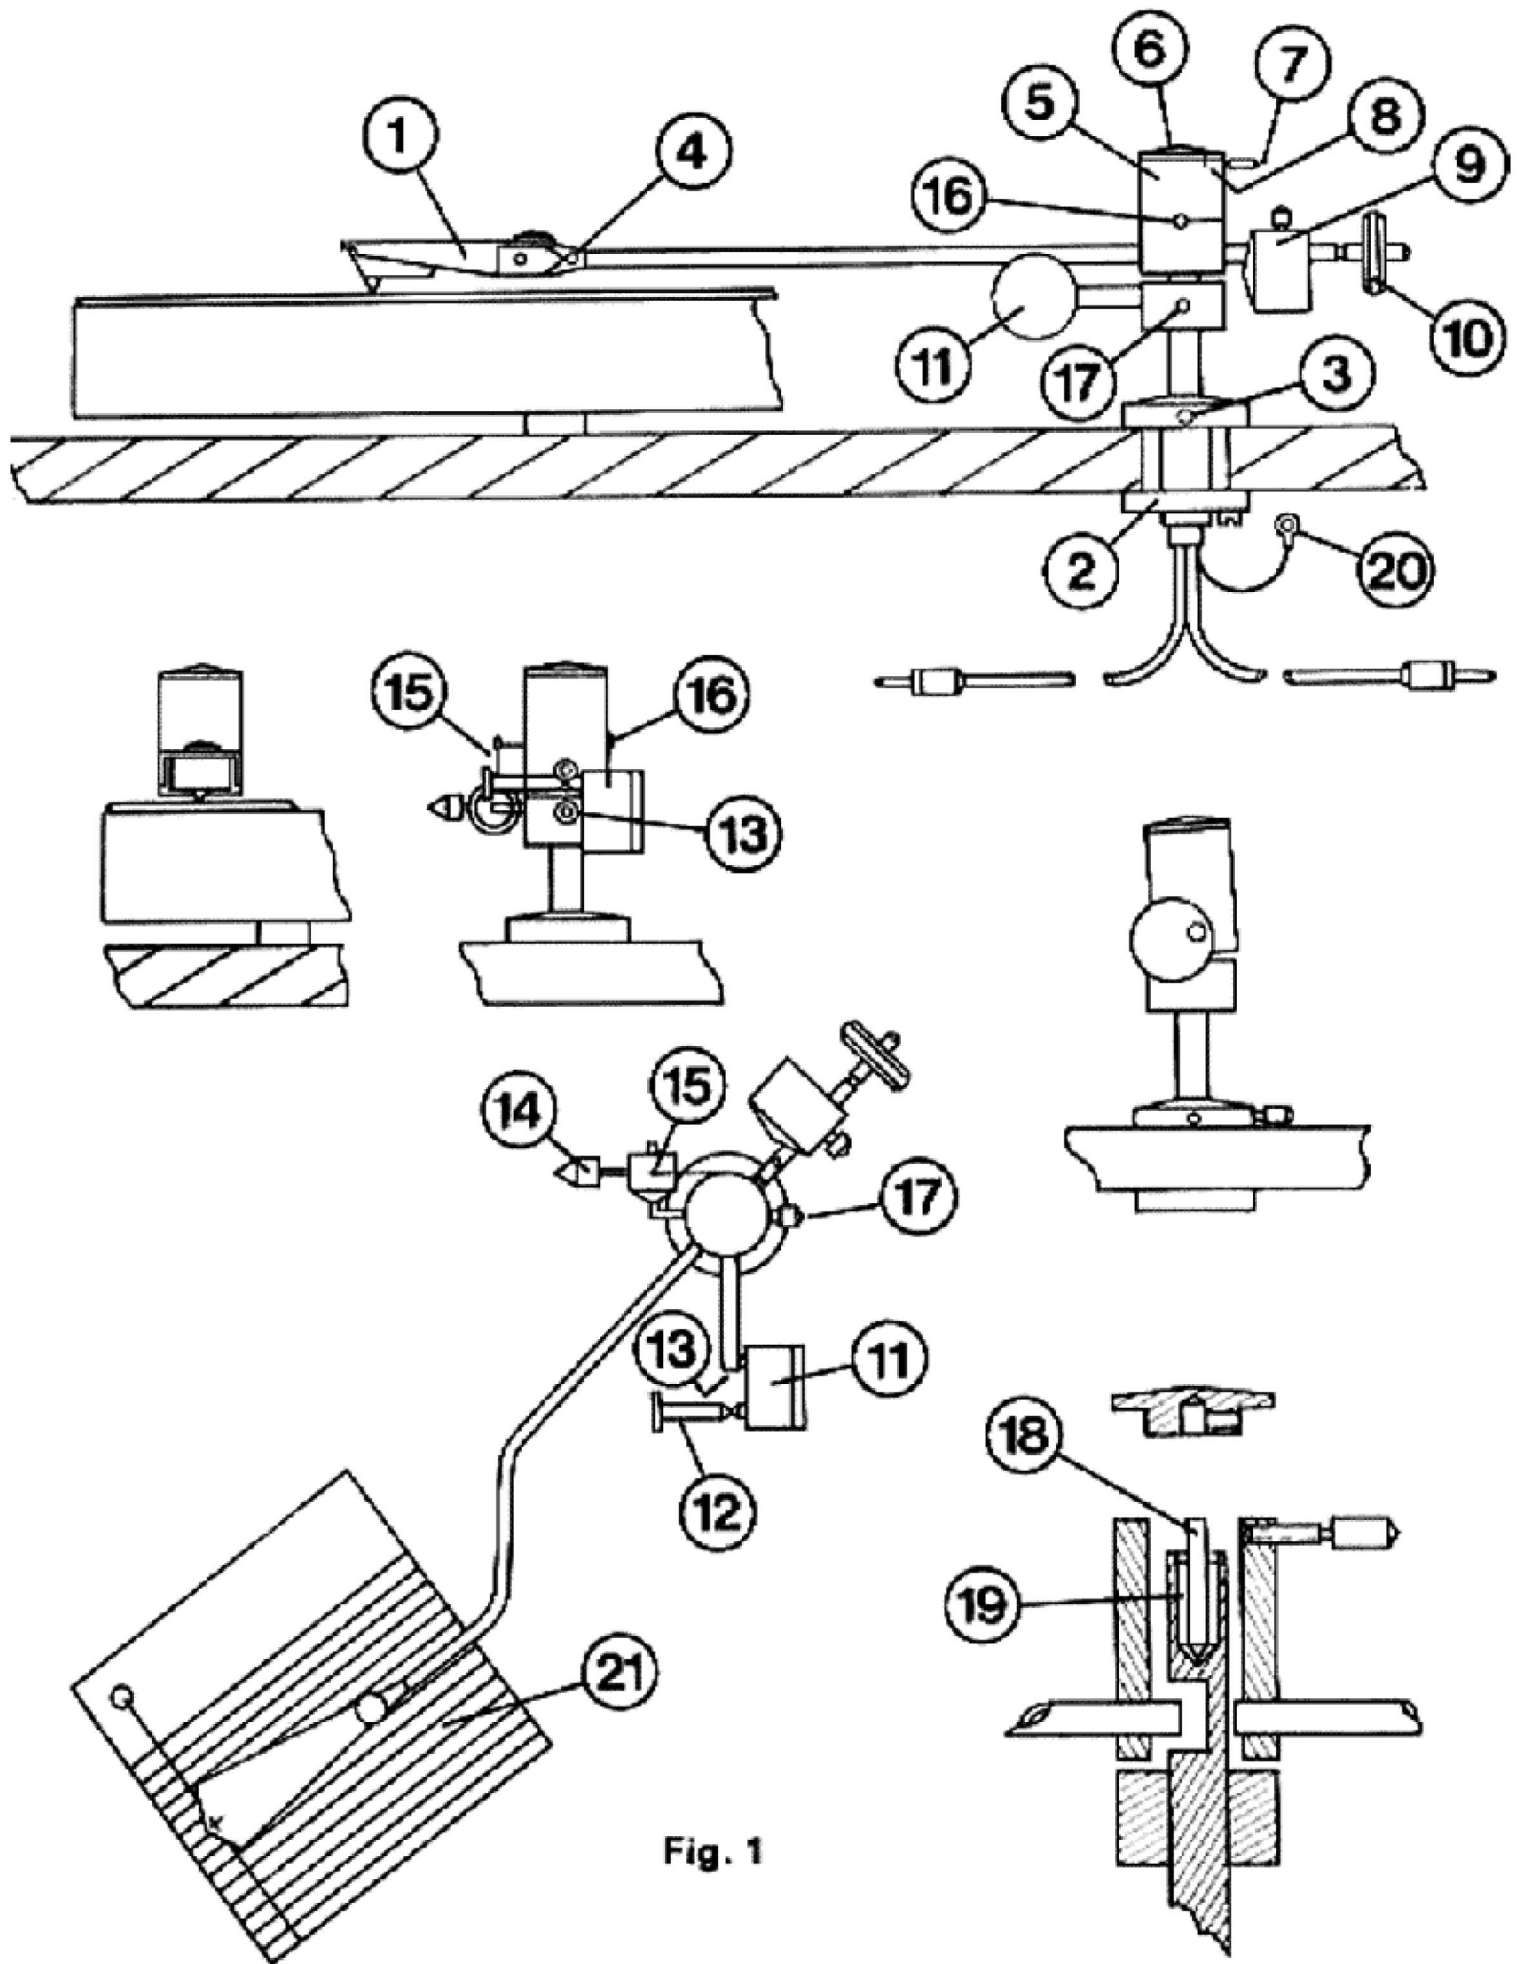
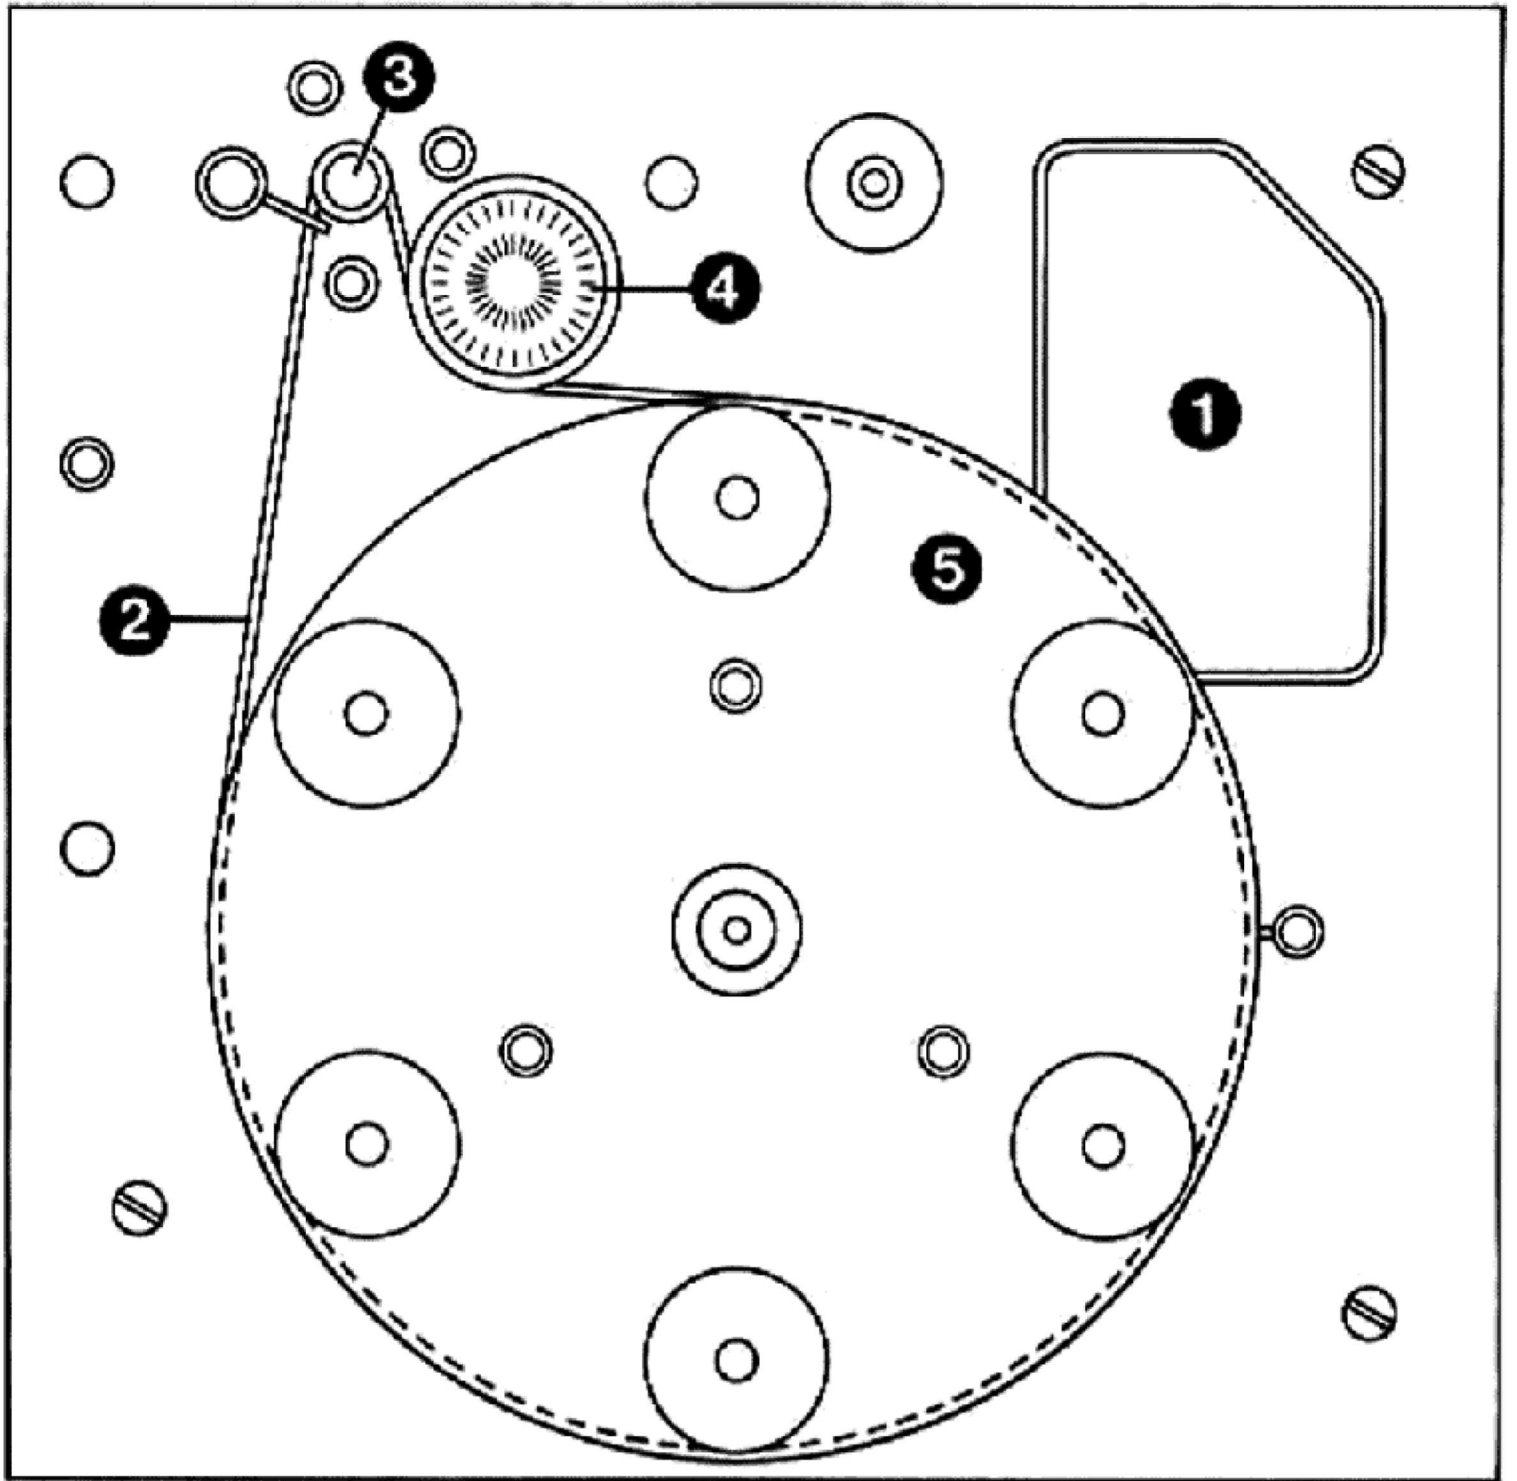
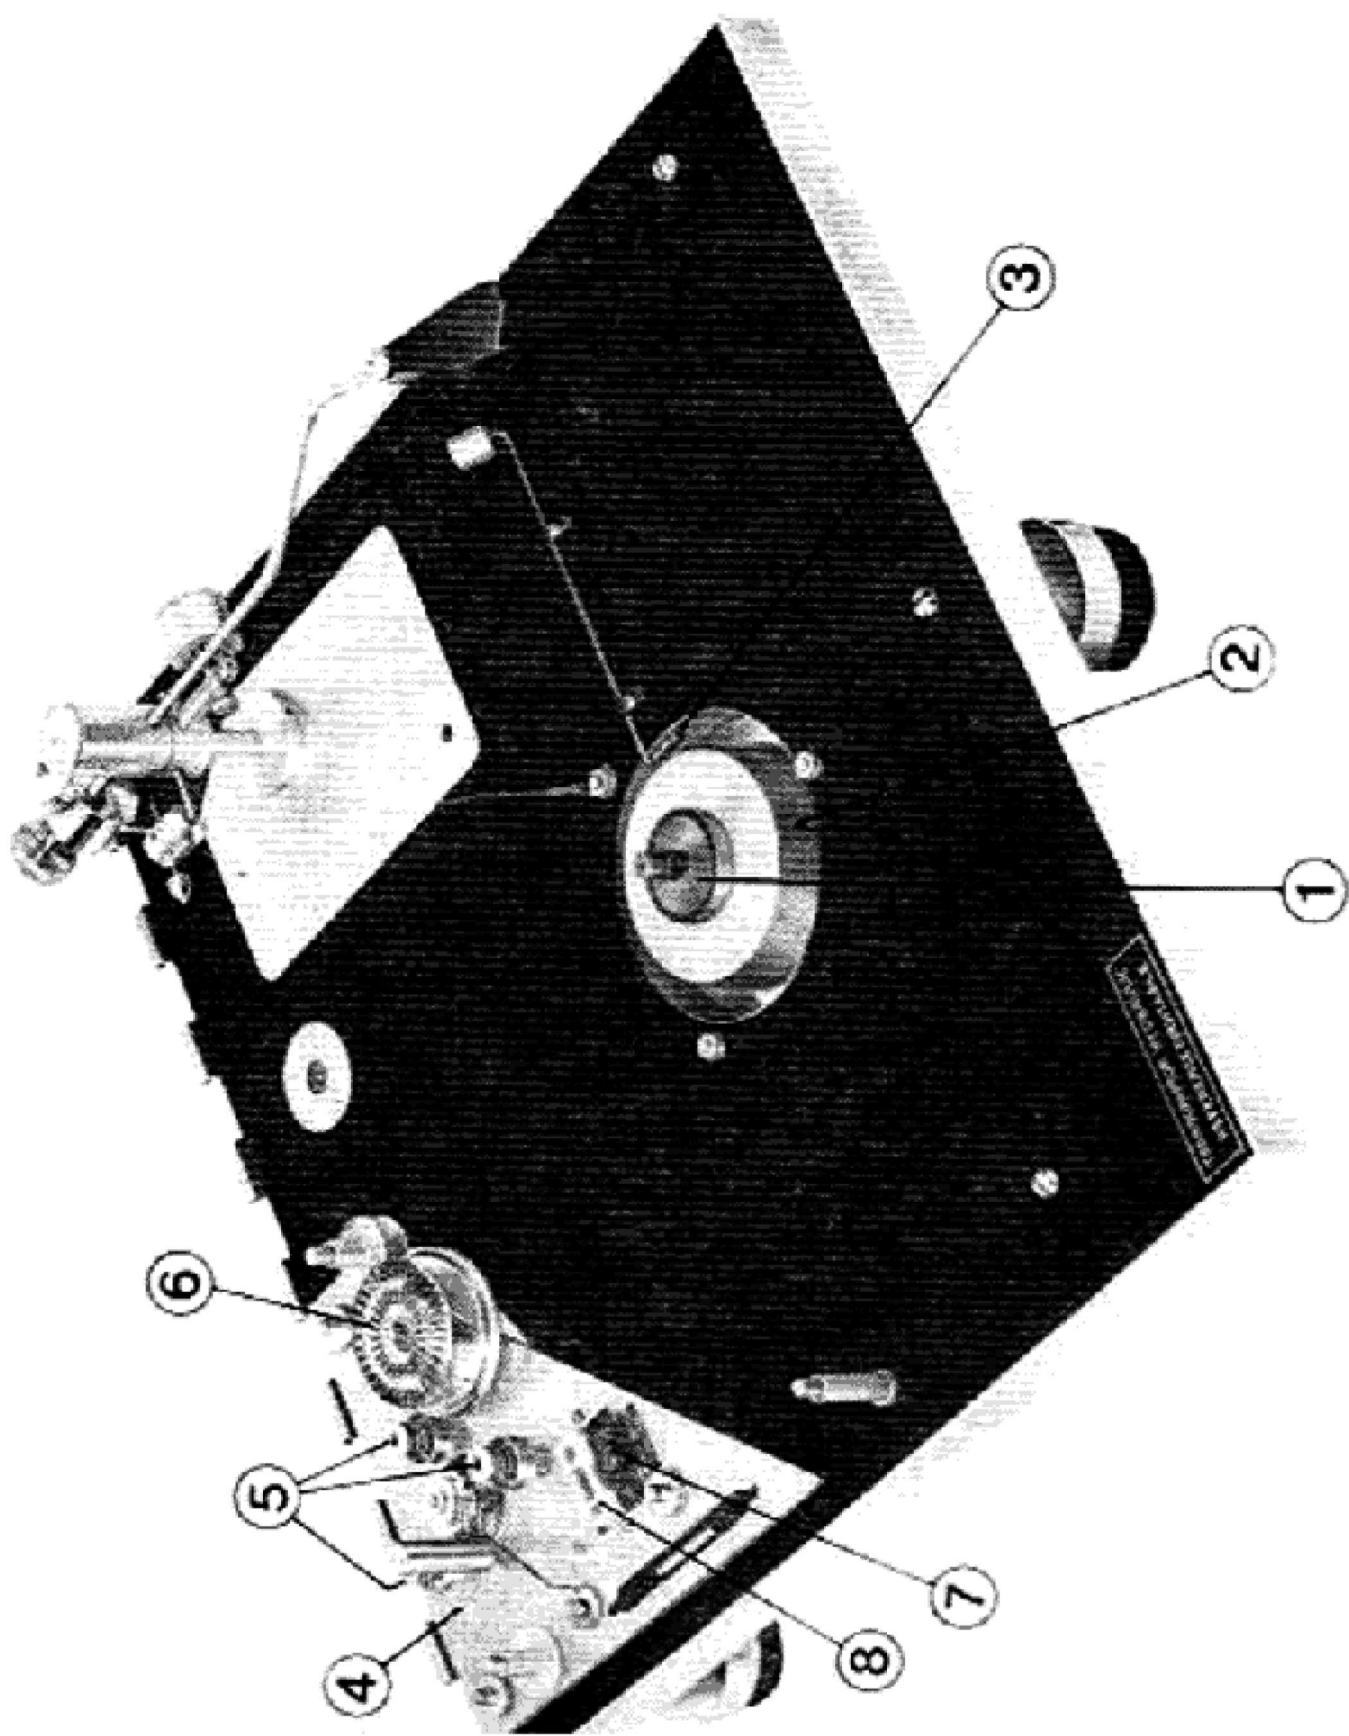
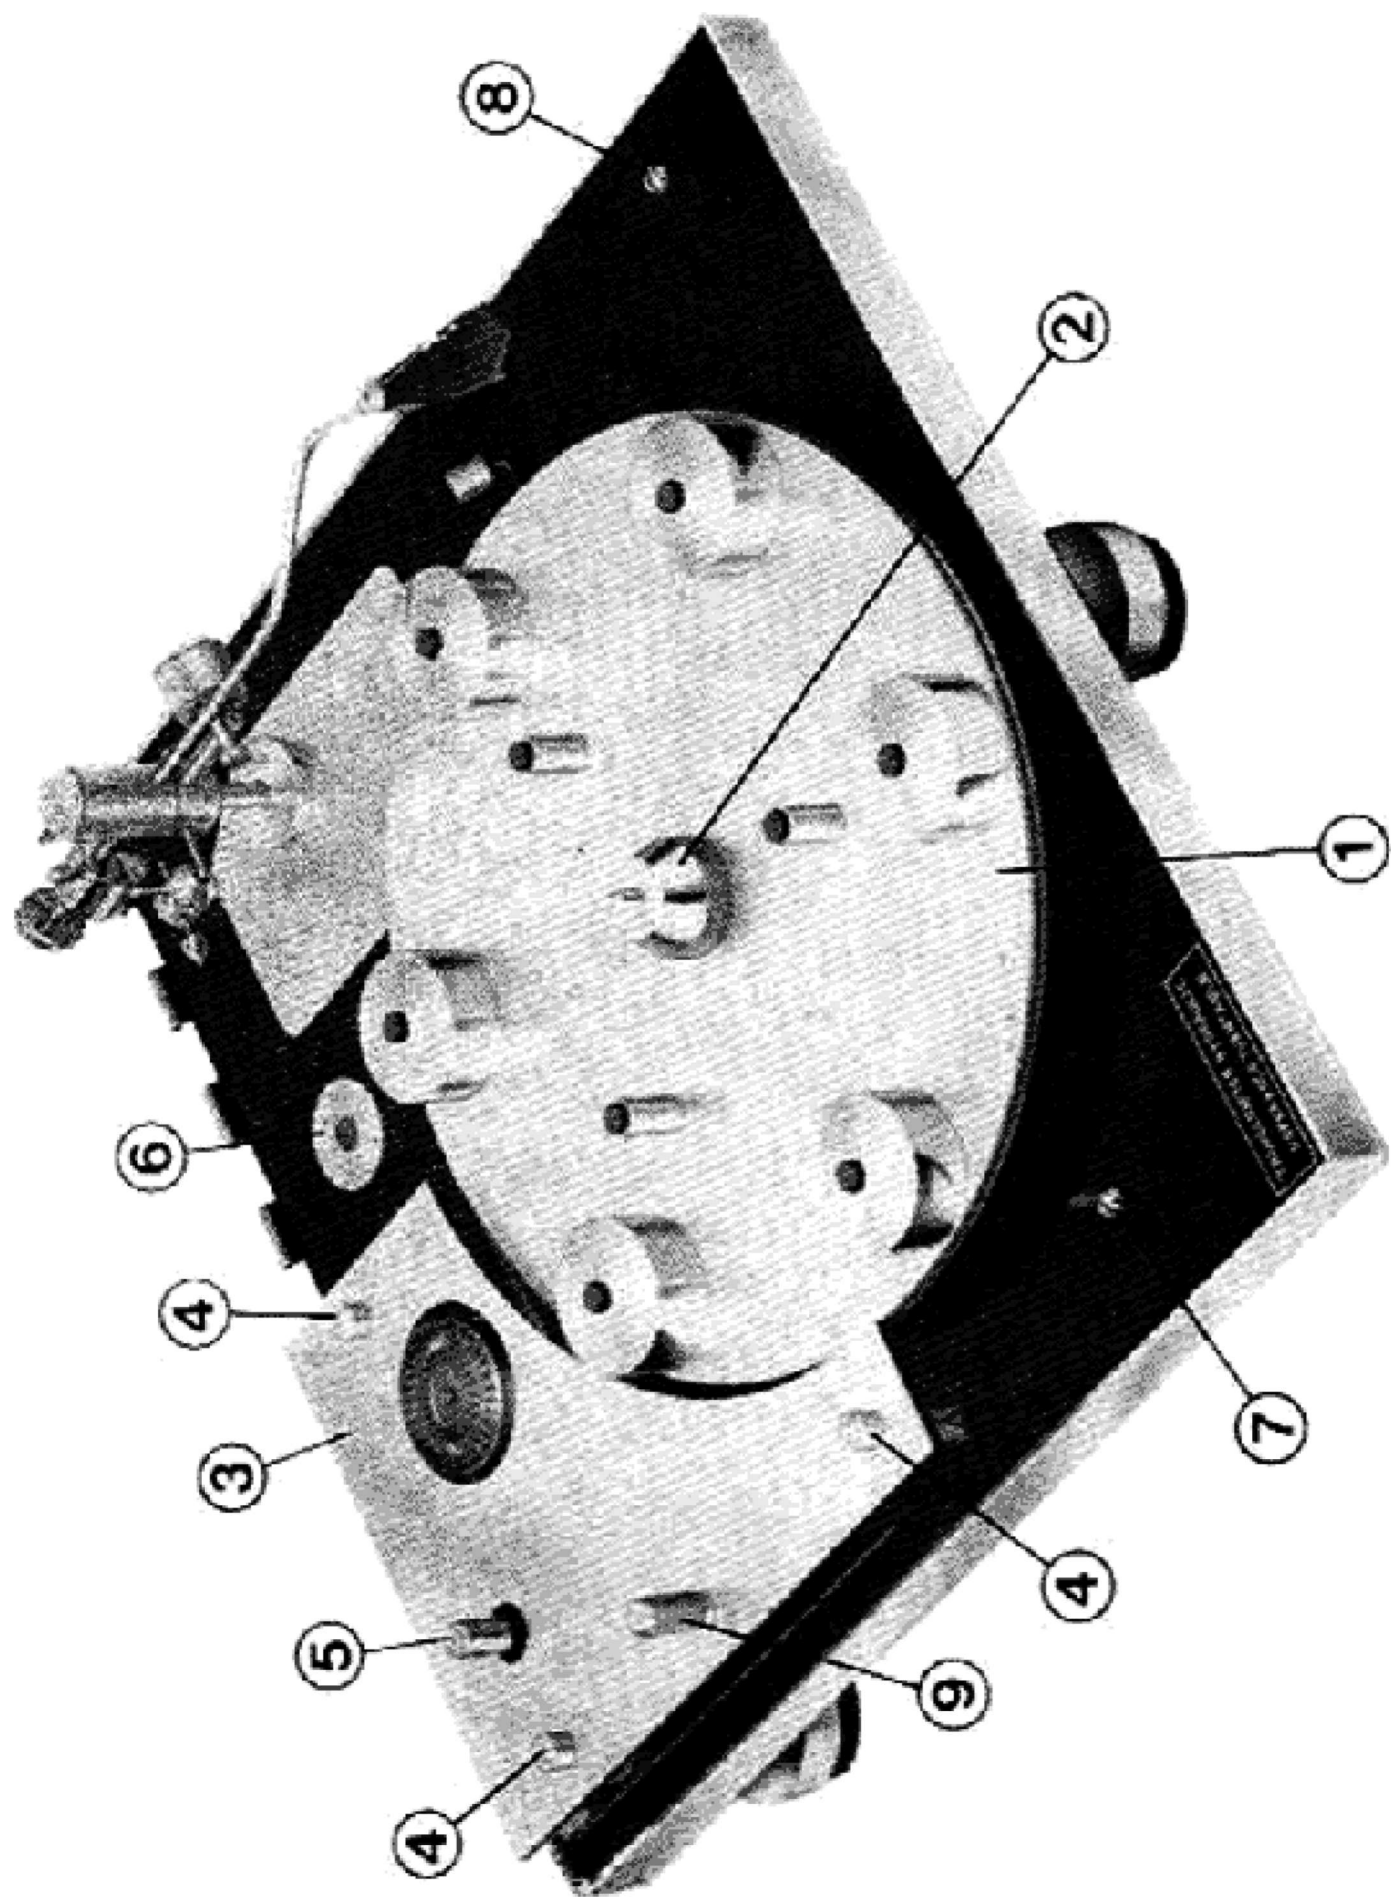

Fig. 1
Fig. 2
Fig. 3
Fig. 4
If the TRANSCRIPTOR Fluid Arm has not been fitted onto the tone arm board, fig. 2(1), proceed as follows. However, if it has been fitted, proceed with the setting-up instructions.
- 1** Remove the headshell, fig. 1(1) by slackening its knurled retaining nut, supporting the arm with one hand and pulling the headshell off with the other. Fit the cartridge, connecting the terminal wires as marked on the cartridge and underneath the headshell. Refit the headshell to the arm.
- 2** Temporarily fit the platter, fig. 4(1), to its centre spindle, place a record on the platter and fit the template protractor fig. 1(21), to the centre spindle. With the stylus tip resting on the point marked —O—, the arm should be mounted so as to ensure that the front part of the arm tube and the headshell are parallel to the lines on the protractor. Mark the Fluid Arm mounting hole centre, remembering that although the hole can be in any convenient position around the platter, it must be possible to close the perspex cover without fouling the counterweight overhang.
- 4** Fit the Fluid Arm to the tone arm board. The base nut assembly, fig. 1(2), should be "finger tight" only.
- 5** Connect the earth tag, fig. 1(20), to the screw on the lower base nut.
- 2** Fill the fluid well, fig. 3(2), surrounding the main bearing, fig. 3(1), with the fluid supplied in the large bottle. All the fluid should be used.
- 3** Ensure that the speed control vane, fig. 3(3), is immersed in the fluid.
- 4** Secure the platter, fig. 4(1), to the centre bearing with the knurled retaining nut, fig. 4(2), after first ensuring that the mating surfaces are clean.
- 5** Ensure that the motor assembly, fig. 3(4), is floating correctly and that its three support springs, fig. 3(5), are seated in their cups correctly. Any temporary misalignment that may have occurred during transit can be corrected simply by holding the motor under the motorboard and pulling it downwards.
- 6** Lightly oil the stroboscope spindle and then fit the stroboscope, fig. 3(6), onto its bearing.
- 7** Fit the drive belt, fig. 2(2), as shown in fig. 2.
- 8** Ensure that the mains voltage adjustment plug, fig. 3(7), has been set for the correct voltage, and that a fuse, fig. 3(8), of the correct rating has been fitted.
- 9** Assemble the top plate, fig. 4(3), onto the unit and secure it with the three retaining nuts, fig. 4(4).
- 11** Close the cover and level the unit by means of the three adjustable legs, using the bubble level indicator, fig. 4(6), on the motorboard.
- 2** Place a record on the platter and fit the template protractor, fig. 1(21), to the platter centre spindle. With the stylus tip resting on the point marked —O—, move the Fluid Arm in its fixing hole so as to ensure that the front part of the arm tube and the headshell are parallel to the lines on the protractor. Tighten the base nut, fig. 1(2), "finger tight".
- 3** Slacken the height adjustment screw, fig. 1(3), in the base nut assembly and adjust the height of the arm tube so that it is parallel to the record when playing. Tighten the height adjustment screw.
- 4** Fit the eccentric counterweight, fig. 1(9), on the arm between the helmet, fig. 1(5), and the screwed counterweight fig. 1(10), and then move the counterweight forward or backward to obtain static balance. Rotate the counterweight to obtain lateral balance so that the helmet runs vertically whilst playing.
- 5** Using the TRANSCRIPTOR Stylus Scales (see operating instructions below), adjust the screwed counterweight, fig. 1(10), to obtain the correct tracking weight as stated by the cartridge manufacturer (always use the lowest stated tracking weight).
- 6** Using the template protractor, make a final adjustment for tracking error. Fine adjustment can be made by means of the set screw, fig. 1 (4), at the end of the arm. This screw provides radial and slight longitudinal adjustment and care must be taken to ensure that after any adjustment the top of the headshell is still parallel in both planes with respect to the record, with the helmet, fig. 1 (5), held in a vertical position (i.e. normal playing condition).
- 8** Note the position of the index marks, fig. 1 (8), on the helmet cap, fig. 1 (6), and helmet, fig. 1 (5), remove the helmet cap retaining screw, fig. 1 (7), and then lift out the helmet cap. With the pivot, fig. 1 (18), still in position, fill the fluid well, fig. 1 (19), from the small bottle of fluid to about $\frac{1}{16}$ in. (1.5 mm) below the rim of the well (this is best performed by first warming the bottle in hot water and using an eye-dropper or similar device). Carefully refit the helmet cap, realigning the index marks and refitting the retaining screw. Ensure that the screw passes through the hole in the helmet cap and bears against the top of the pivot.
- 9** Place the Fluid Arm assembly in its normal rest position, with the arm supported in the groove on the lowering handwheel cradle, fig. 1 (12).
- 10** Connect the adjustable bias weight, fig. 1 (14), to the helmet with cotton thread. One end of the thread connects to the split pin, fig. 1 (15), and the other end to the screw, fig. 1 (16), on the side of the helmet. With the arm in the rest position, the bias weight must be horizontal.
NOTE: The Sweep Arm is available separately as an accessory. If the sweep arm, (fig. 5) has not been fitted by the manufacturer, a pre-drilled fixing hole blanked off with a chromium screw, fig. 4(7), will be found on the left hand side of the motorboard. Remove this screw, insert the sweep arm support rod and secure with its wing nut under the motorboard.
If the stylus brush (fig. 5) has not been fitted by the manufacturer, a pre-drilled hole blanked off with a chromium screw, fig. 4(8), will be found on the right hand side of the motorboard. Remove this screw, insert the stylus brush support rod and secure with its wing nut under the motorboard.
The turntable drive is switched on or off simply by rotating the knob, fig. 4(9), on the top plate through 90°.
Fine speed control is by means of the hydraulic damping vane, fig. 3(3), the control knob for which is on the right-hand side of the platter. Switching between 45 r.p.m. and 33½ r.p.m. is by means of the knob, fig. 4(5), protruding through the top plate—push down for 45 r.p.m., pull up for 33½ r.p.m. This speed change operates only while the motor is running.
With the arm resting in the groove on the lowering handwheel cradle, fig. 1(12), and the lowering handwheel, fig. 1(11), in its raised position, swing the entire assembly around until the desired position on the record is reached. Turn the handwheel in a counter-clockwise direction until a point is reached when it will lower automatically. If required, however, the hydraulic action of the handwheel can be over-ridden and it can be manually rotated instead. Once the stylus is on the record, swing the assembly back towards the front again in order to ensure correct bias compensation.
To lift the stylus off the record, swing the assembly in again and lift the arm on the larger diameter section of the cradle (not in the groove as this may cause a sideways force on the stylus). Once lifted, slide the arm into the cradle groove and swing the entire assembly back to the normal rest position. Positioning damping is provided by means of a knurled screw, fig. 1(17).
The lowering handwheel swings over an arc of approximately 90°. If required, this arc can be reset by adjusting a set screw, fig. 1(13), and moving the handwheel over the desired arc.
- 1** Periodically examine the drive belt, fig. 2(2), for signs of perishing or cracking. Renew if necessary.